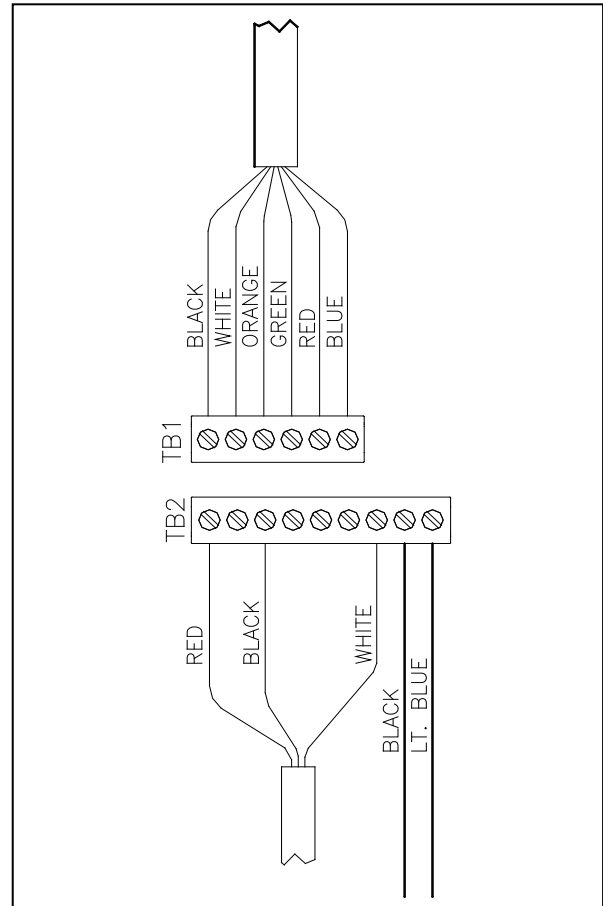

Figure 3-5. TM4500 Wiring Configuration
7. If the fuse is OK, check the wiring of TB1 and TB2. Reconnect any loose wires. (Figure 3-5).